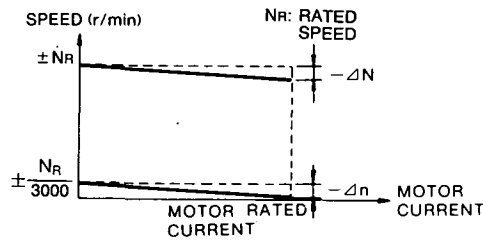

Fig. 12.2 Speed Regulation
(2) Speed Regulation (Fig. 12.2)